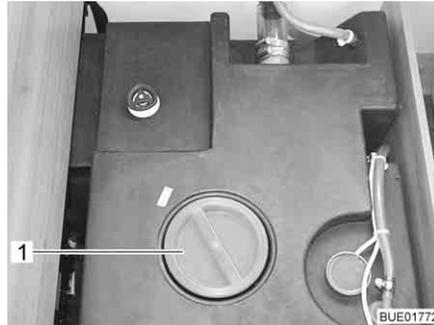

Fig. 160 Cleaning opening water tank
- Remove the cap (Fig. 160,1) of the water tank.